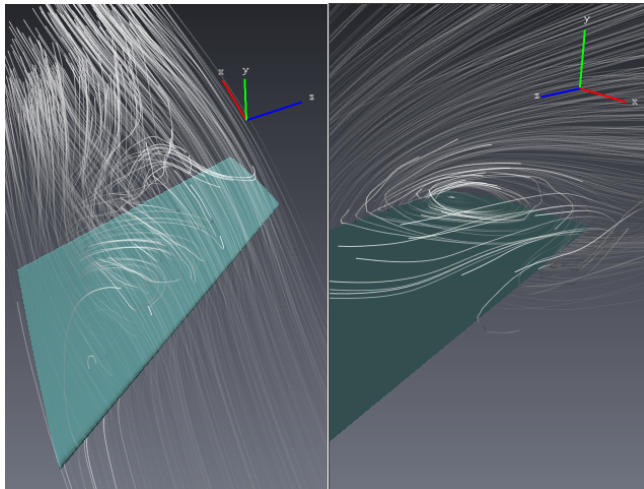

Figure 18.85: Illuminated Streamlines of the velocity vector field.
- Rotate and zoom in and out to get two different views, something like Figure 18.85.